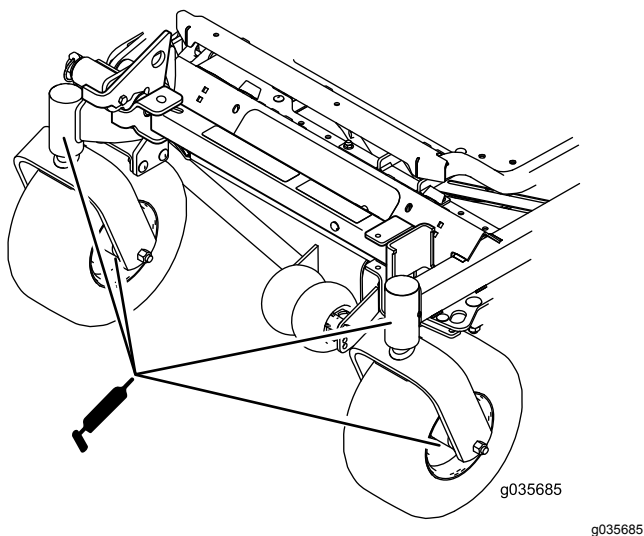

Figure 52
12. Install the hex plug and dust cap (Figure 52).